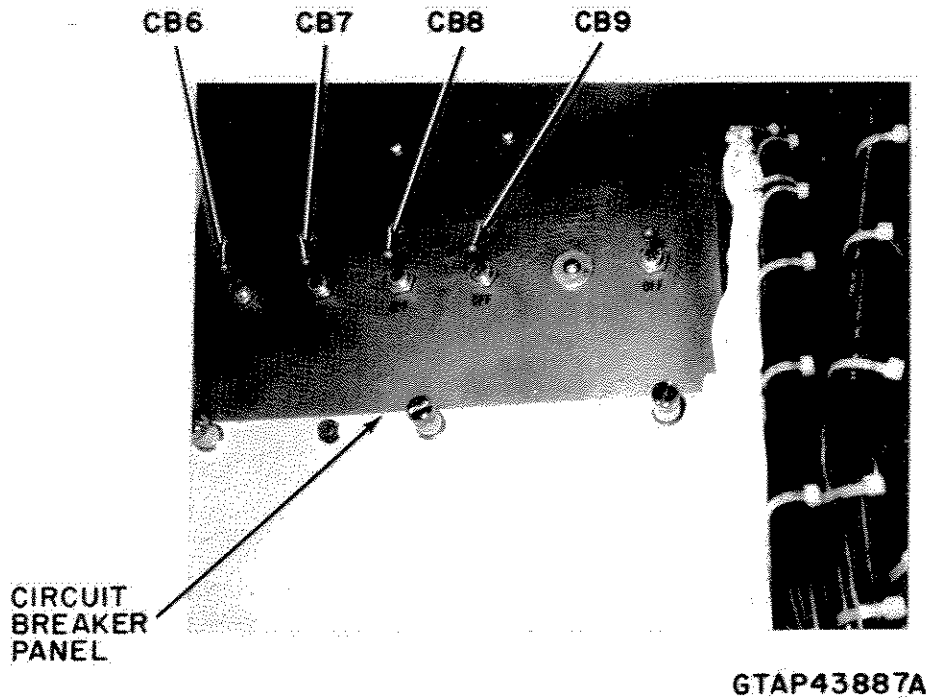

Figure 6-73. Exciter/Auxiliary Exciter Cabinet, Unit 151/152, Circuit Breakers for Power Supply A16 (via Power Supplies A10 through A13)
6-7.5.8.2 Removal. (Figures 6-73 and 6-74).
3. On circuit breaker panel located at top left of cabinet, set POWER SUPPLY A10 through A13 circuit breakers CB6 through CB9 to OFF (Figure 6-73).
4. On circuit breaker panel, set POWER SUPPLY A10 through A13 circuit breakers CB6 through CB9 to ON (Figure 6-73).